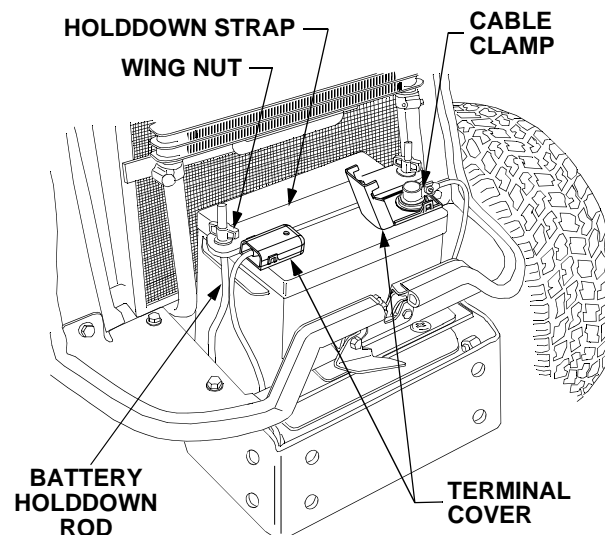

Figure 37
- Remove the two wing nuts and the battery holddown strap from the battery holddown rods. See Figure 37.
- Spread the locking clips on the sides of the terminal covers and lift the tops of the covers to expose the battery connections. See Figure 37